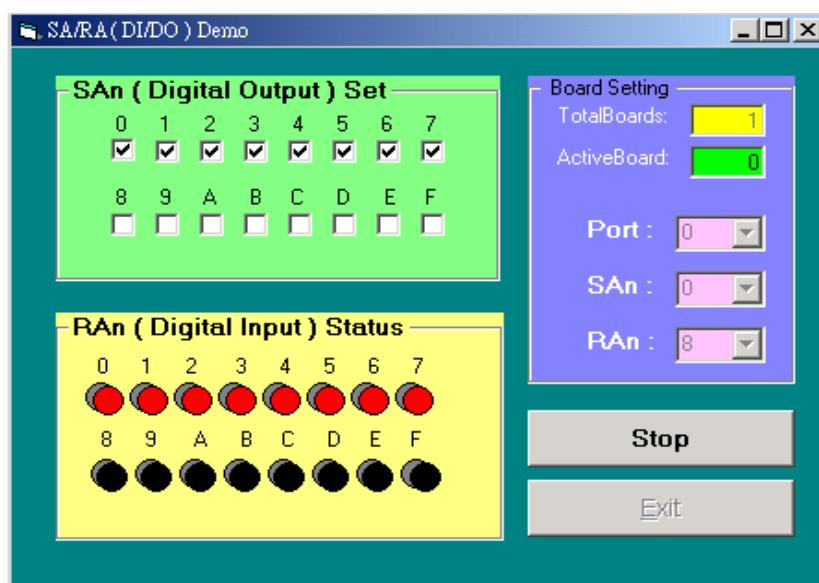

Figure 7.2
Step 4 : On the screen of Fig7.2, the RAn (Digital Input) status will display the 16-bit data sent from the remote SA8 (FR-2053) to the host RA8 (FRB-200U/200/100).